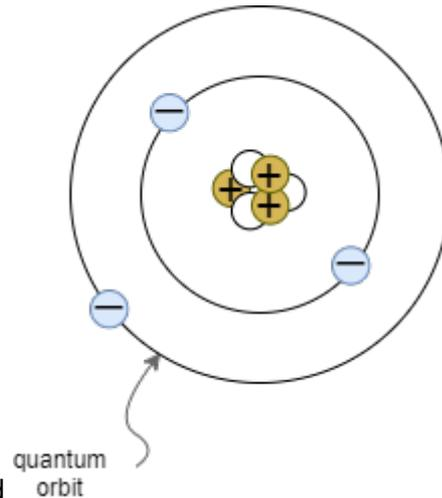

Fig. 9: Atomic model according to Bohr / Sommerfeld
- Explanation of the charge on the basis of the atomic models according to Bohr and Sommerfeld (see figure 9)